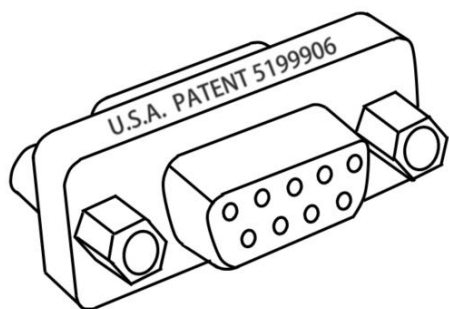

Figure 77
5) If you find that the printer cable interface you purchased does not match the banknote counter interface, you can use the printer cable adapter in the machine box provided by us for connection (please see Figure 77 below).